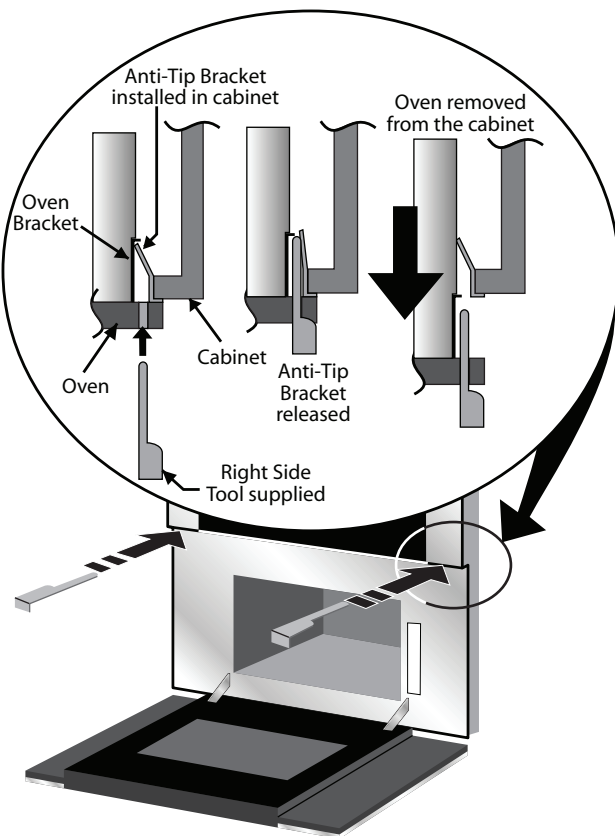

Figure 4
4. To pull out the oven for servicing insert the tool supplied with the appliance both side at the same time in the hole located on the side frame and visible when the door is opened. After inserting the tool pull the oven towards you (see figure 4).